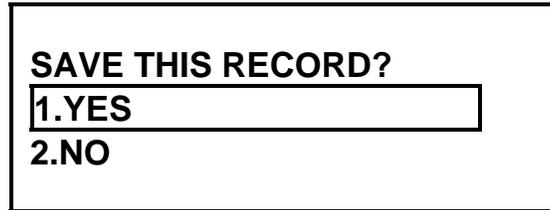

Figure 32.0 Save This Record Menu
- c. Action Options:** Press key number 1 (“YES”) or push down the Control Knob. Press key number 2 to end the current test and advance to the “Save This Record Menu” (Figure 32.0). Selection of 2 may be made by turning the Control Knob. Push down the Control Knob after 2 is selected.
- b. Origin:** Select menu option 1 (“YES”) from the “Save This Record Menu” (Figure 32.0).
- b. **Origin:** Press key number 2 (“NO”) from the “Save This Record Menu” (Figure 32.0).